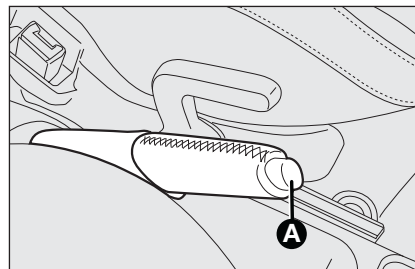

fig. 1
- slightly lift the handbrake and press release button **A**-fig. 1;